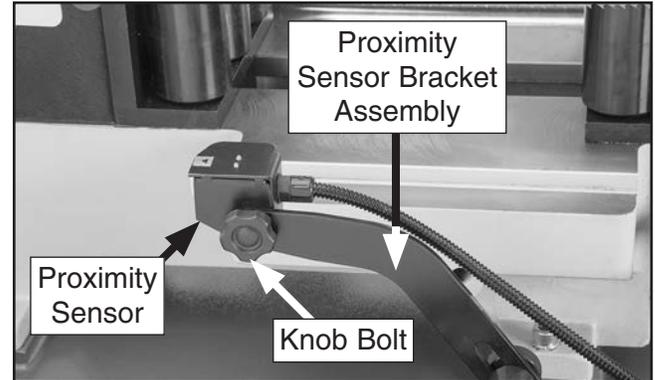

Figure 16. Proximity sensor attached.
3. Attach proximity sensor to proximity sensor bracket assembly with pre-installed knob bolt, as shown in **Figure 16**.